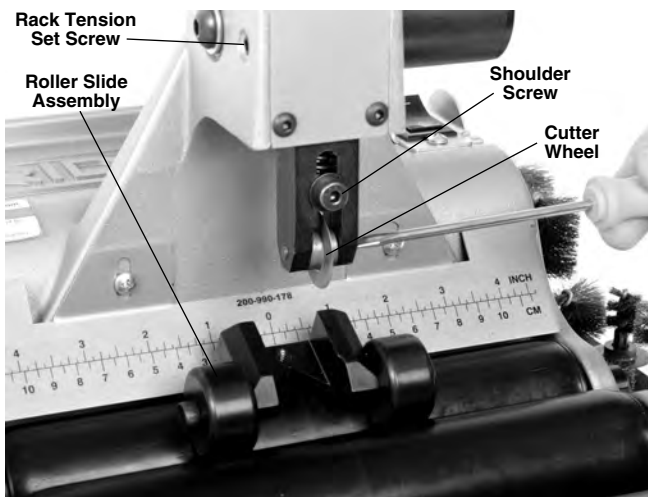

Figure 15 – Remove Cutter Wheel Screw
Use a $\frac{5}{32}$ " hex key to tighten or loosen rack tension set screw (Figure 15) as desired. Typically it is set just tight enough to prevent rack movement under it's own weight.
1. Loosen the shoulder bolt and remove the roller and slide assembly (Figure 15). Do not remove the shoulder bolt, this keeps the tension spring in place.
2. Remove cutter wheel screw and replace the cutter wheel (Figure 15). See Accessories section for available cutter wheels.